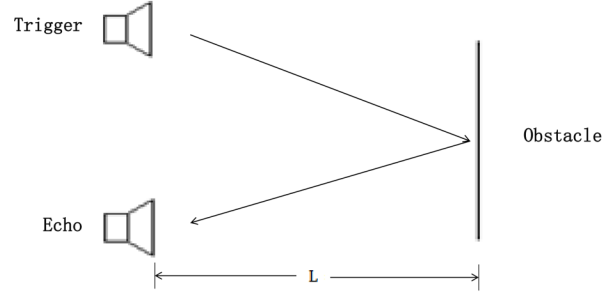

Figure 1: Theory of operation of the ultrasound sensor
The ultrasound sensor measures the distance from any detected object within its range. As shown in Figure 1 the ultrasound sensors detects objects by sending out ultrasound waves and receiving an echo, if an object is detected. The sensor measures the time of flight between transmitting and receiving the signal and calculates the distance according to the following formula (1).